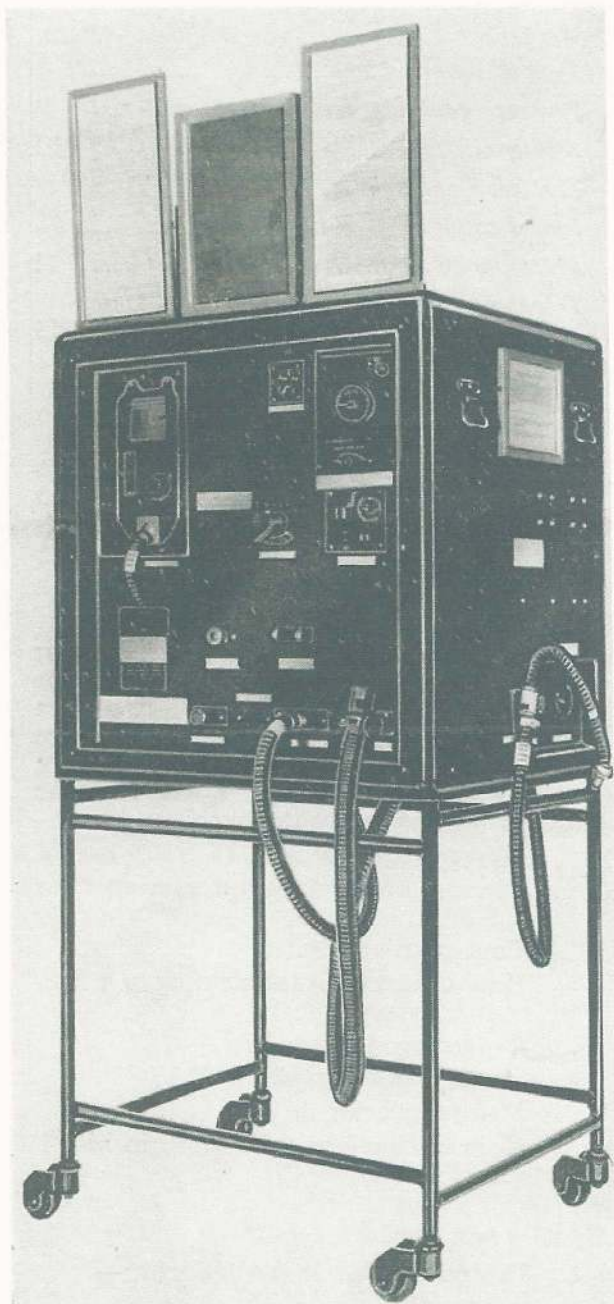

Fig. 1. Oxygen and anti-g suit panel
3. This panel (*fig. 1*) has provision for testing demand system oxygen masks type A-13A, Type A-13A/1 and Type P, oxygen economiser, pressure jerkin, partial pressure suit and head piece and the full pressure suit when this becomes available. The following are fitted to the panel:—
4. This panel (*fig. 1*) is fitted with:—